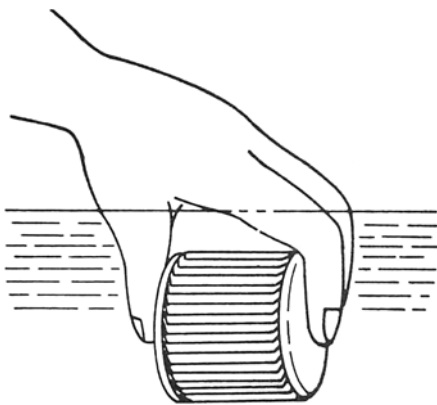

Figure 5
1. Clean the element in a suitable cleaner, keeping the element ends closed off with your fingers, see Figure 5.